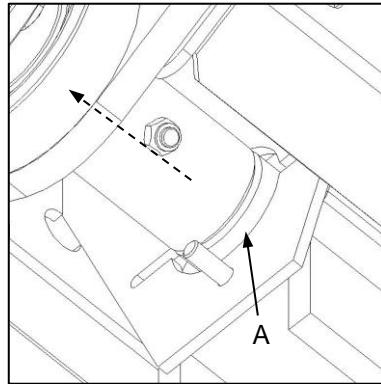

Fig. 4
- The shafts may be extracted through the aperture provided (Fig. 4-A), giving access to the support bushes for inspection or replacement.
- Verwyder die asse deur die gat (Fig. 4-A), wat toegang tot die steunbusse sal bied vir inspeksie of vervanging.